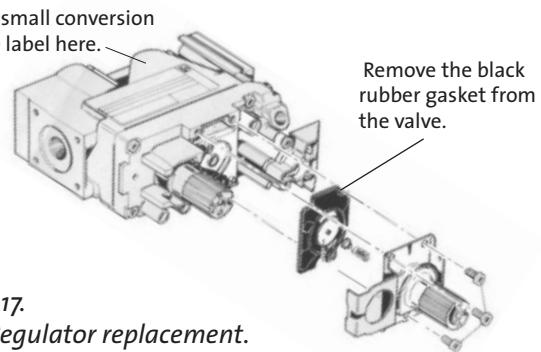

Figure 17.
7. Change the Regulator: See Fig. 17.